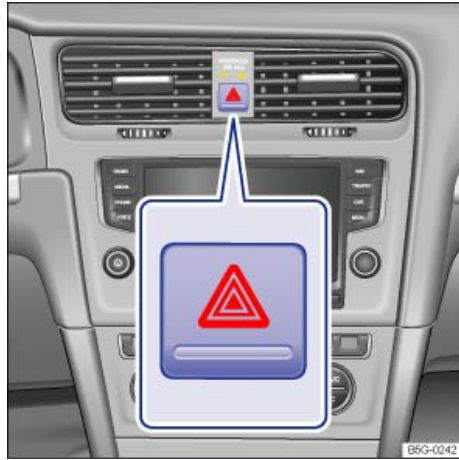

Fig. 176 In the center of the instrument panel: Button for the emergency flashers.
2. Switch on emergency flashers by pressing the  button ⇒ fig. 176.
4. Shift the transmission into Park (P) (automatic) or Neutral (manual only) ⇒ *Shifting*.